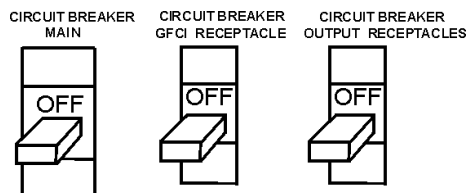

Figure 55. Main, GFCI and Load circuit breakers
1. Switch both the MAIN, GFCI and LOAD circuit breakers (Figure 55) to the “OFF” position.
3. After adjustment started from either piston top center, turn the crankshaft 360° to align the notched line with the TDC mark to do the adjustment again on the remaining valve. See Table 16 and Figure 55 for valve arrangement.